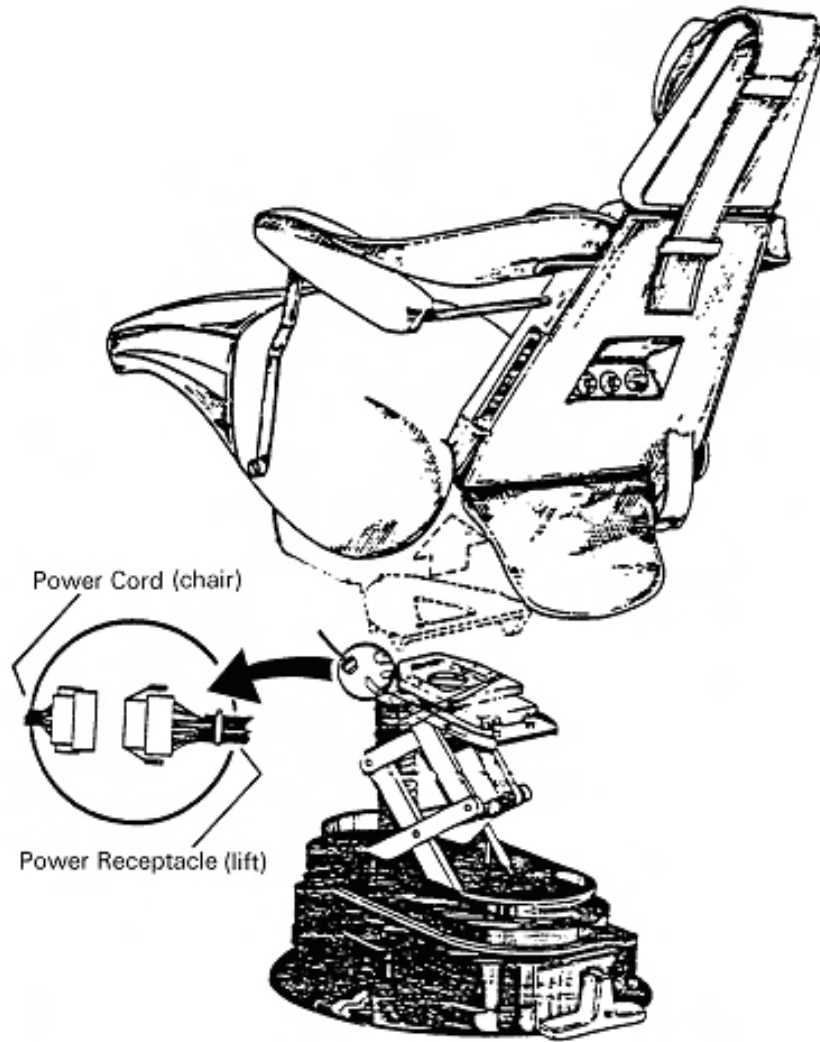

Figure 2-3. Dental chair power cord.
(4) The four conductor plug on the chair is not securely plugged into the black coil cord at the rear of the lift (on newer models the chair-base connector is mounted on the front of the chair. Refer to figure 2-3). Test by visually inspecting the four conductor plug.